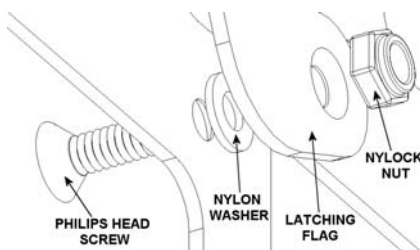
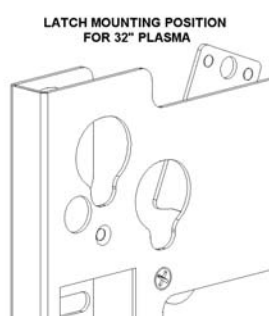
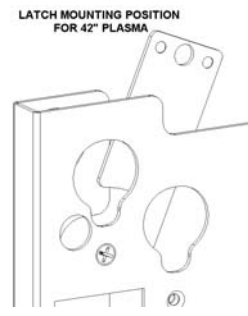
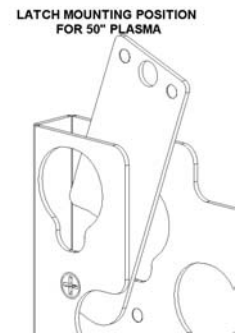

Figure 2
Figure 3
Figure 4
Figure 5
1. Attach latching flags to mount, using the proper position on the mount (see Figure 2, Figure 3, Figure 4, & Figure 5), with the latching flag on the inside of the mount. Tighten Nylock nut until friction is sufficient to hold the latch in place.